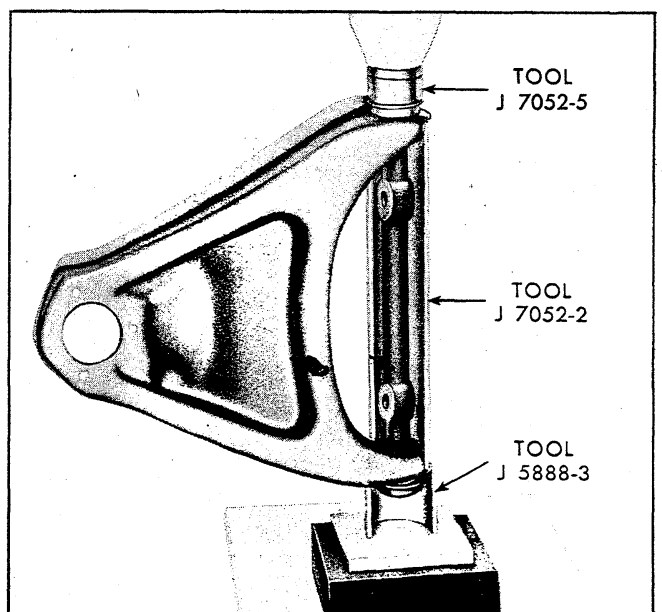

Fig. 42 - Installing Upper Control Arm Cross Shaft Bushing
1. Install arm in arbor press with Tool J-7052-2 in place and press in one bushing while supported on Tool J-5888-3 as shown in Figure 42.